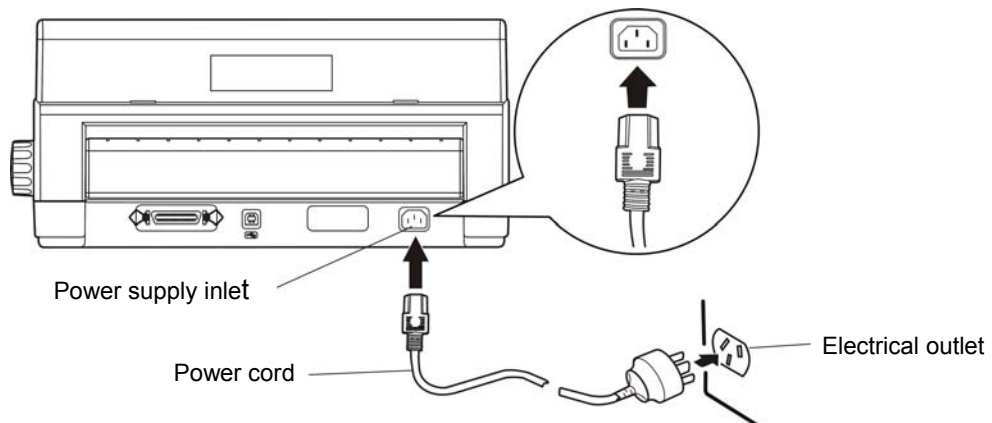

Figure 2-17 Connecting the power cord to the printer
4. Plug the power cord into a properly grounded electrical outlet. (show as figure 2-17)